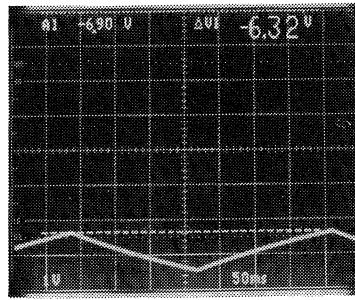

Figure 3-22.
TP V3—This is an inverted version of the same signal on TP V2. The signal is 1.05 V p-p at 2.65 Hz, but the dc offset is now -6.34 V (see Figure 3-22).
8. CHECK—Signals at test points TP V3 and TP F4, see Figures 3-22 and 3-25 in the “Test Signals” part of this section.